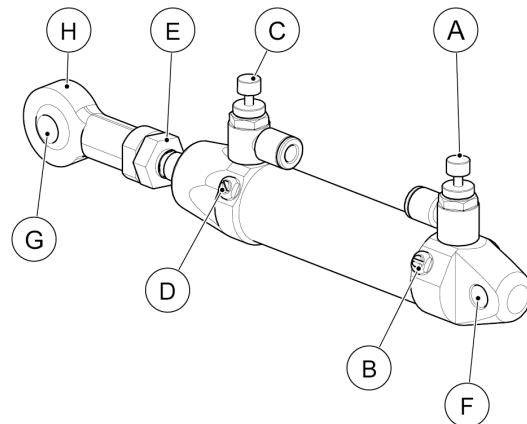

Figure 48 Adjusting the shock mechanism
- Adjust the shock absorbing mechanism in the cylinder by turning the small adjustment screws on both ends of the cylinder (see Figure 48, **B** and **D**).
- To adjust the **out** speed of the piston rod, adjust the speed adjustment screw at the front end of the cylinder (see Figure 48, **C**).
- To adjust the **in** speed of the piston rod, adjust the speed adjustment screw at the rear end of the cylinder (see Figure 48, **A**).
1. Adjust the cushioning for the **out** movement with the adjustment screw (see Figure 48, **D**). Turn the screw clockwise to increase the cushioning effect, counterclockwise to decrease the effect.
2. Adjust the cushioning for the **in** movement with the adjustment screw (see Figure 48, **B**). Turn the screw clockwise to increase the cushioning effect, counterclockwise to decrease the effect.